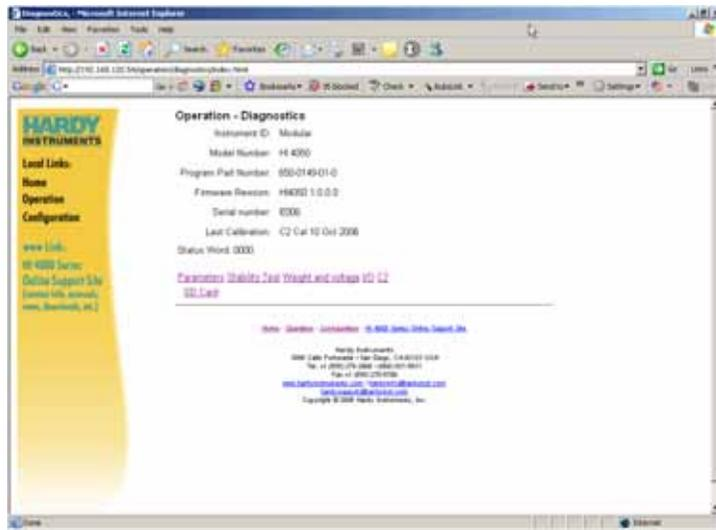

FIG. 411 OPERATION/DIAGNOSTICS
Step 2. Click on Diagnostics. The Operation-Diagnostics Page appears. (See Figs. 411 & 412)